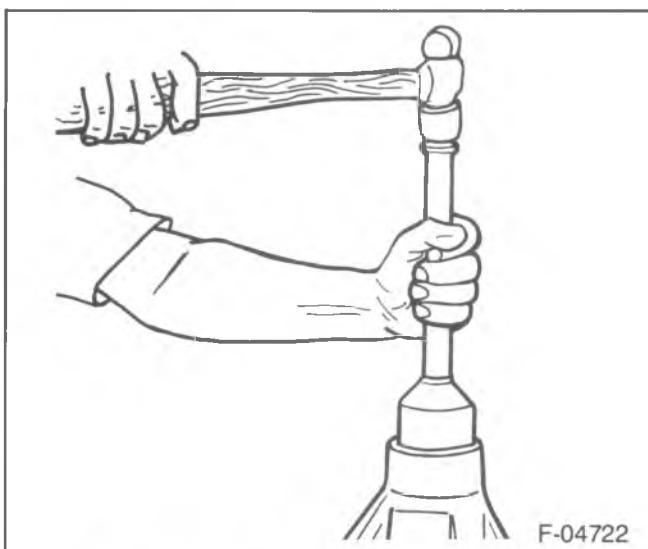

Figure 58—Installing the Pinion Seal
- Remove the pinion nut (12), washer (11), pinion flange (10), slinger (8) and bearing cone (7).
- 10. Preload shims (6).
- 11. Outer bearing (7) and slinger (8).
- 12. Outer pinion oil seal (9) using D-163 (National) sealer installer (figure 58).
- 13. Pinion flange (10).
- 14. Washer (11) and a new pinion nut (12).